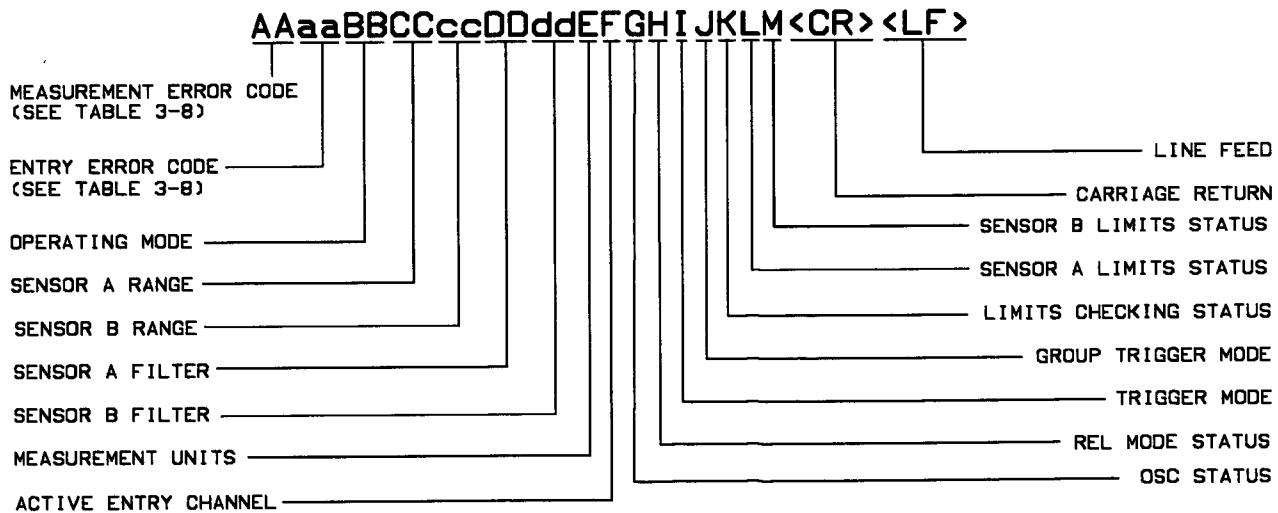

Figure 3-6. Status Message Output Format
Status Message This function enables the power meter's current state to be read under program control. After receiving an SM program code (Status Message) and when addressed to talk, the power meter sends a string of 23 ASCII characters followed by carriage return (CR), line feed (LF), and EOI. The Status Message is updated only after a measurement. The Status Message can be interpreted with the information shown in Figure 3-6.